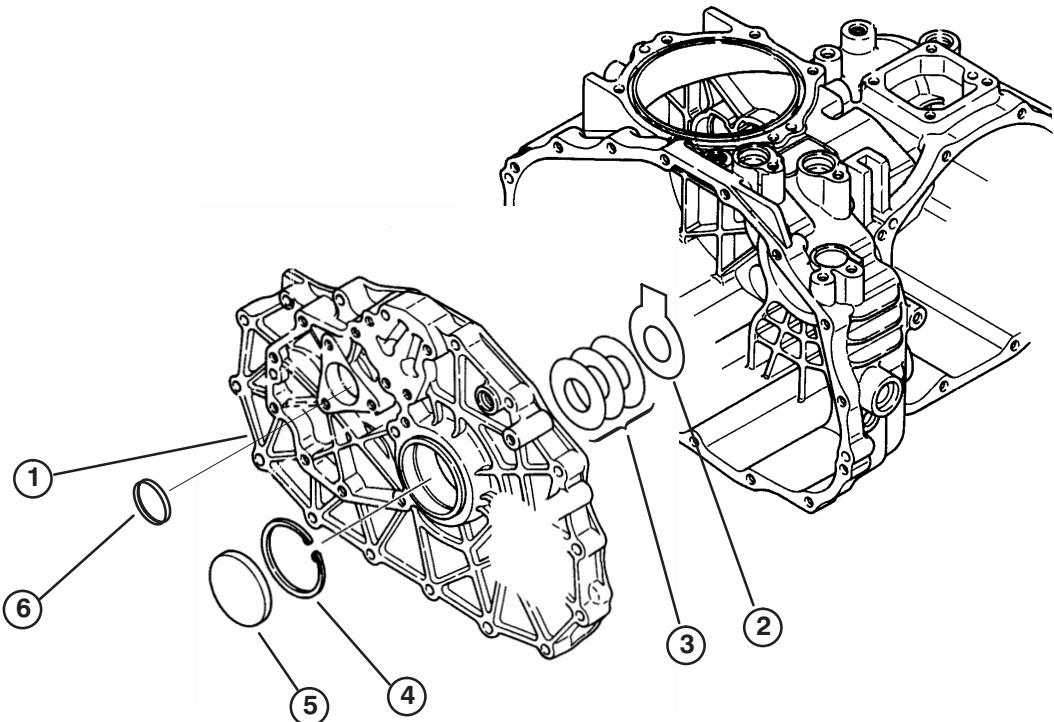

Figure 1
1. Clean transaxle thoroughly to prevent any dirt or other contaminants from entering during removal (Fig. 1).